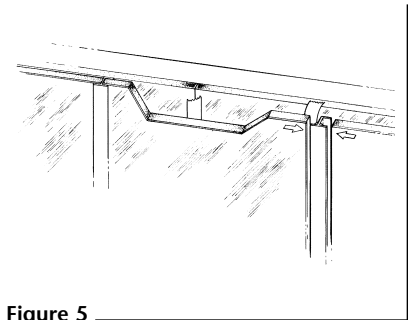

Figure 5
4. Fit next finish board over Clip Strip flange and fasten through first layer into framing members (Figure 5).